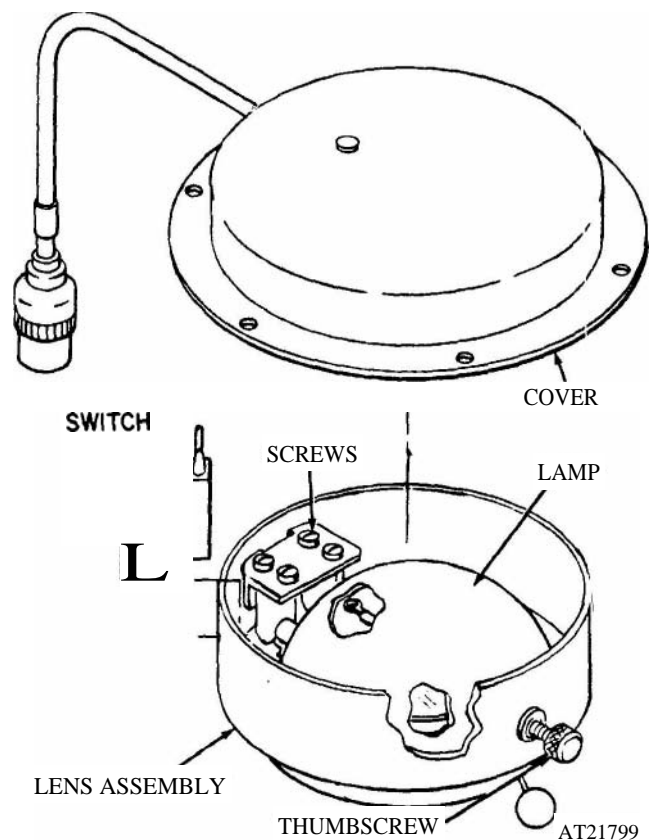

Figure 2-146. M792 ambulance carrier surgical light.
(1) Loosen thumb screw on light assembly and pivot lamp away from fixture (fig 2-146).
(2) Loosen screw retaining lamp to lens assembly. Remove lamp.